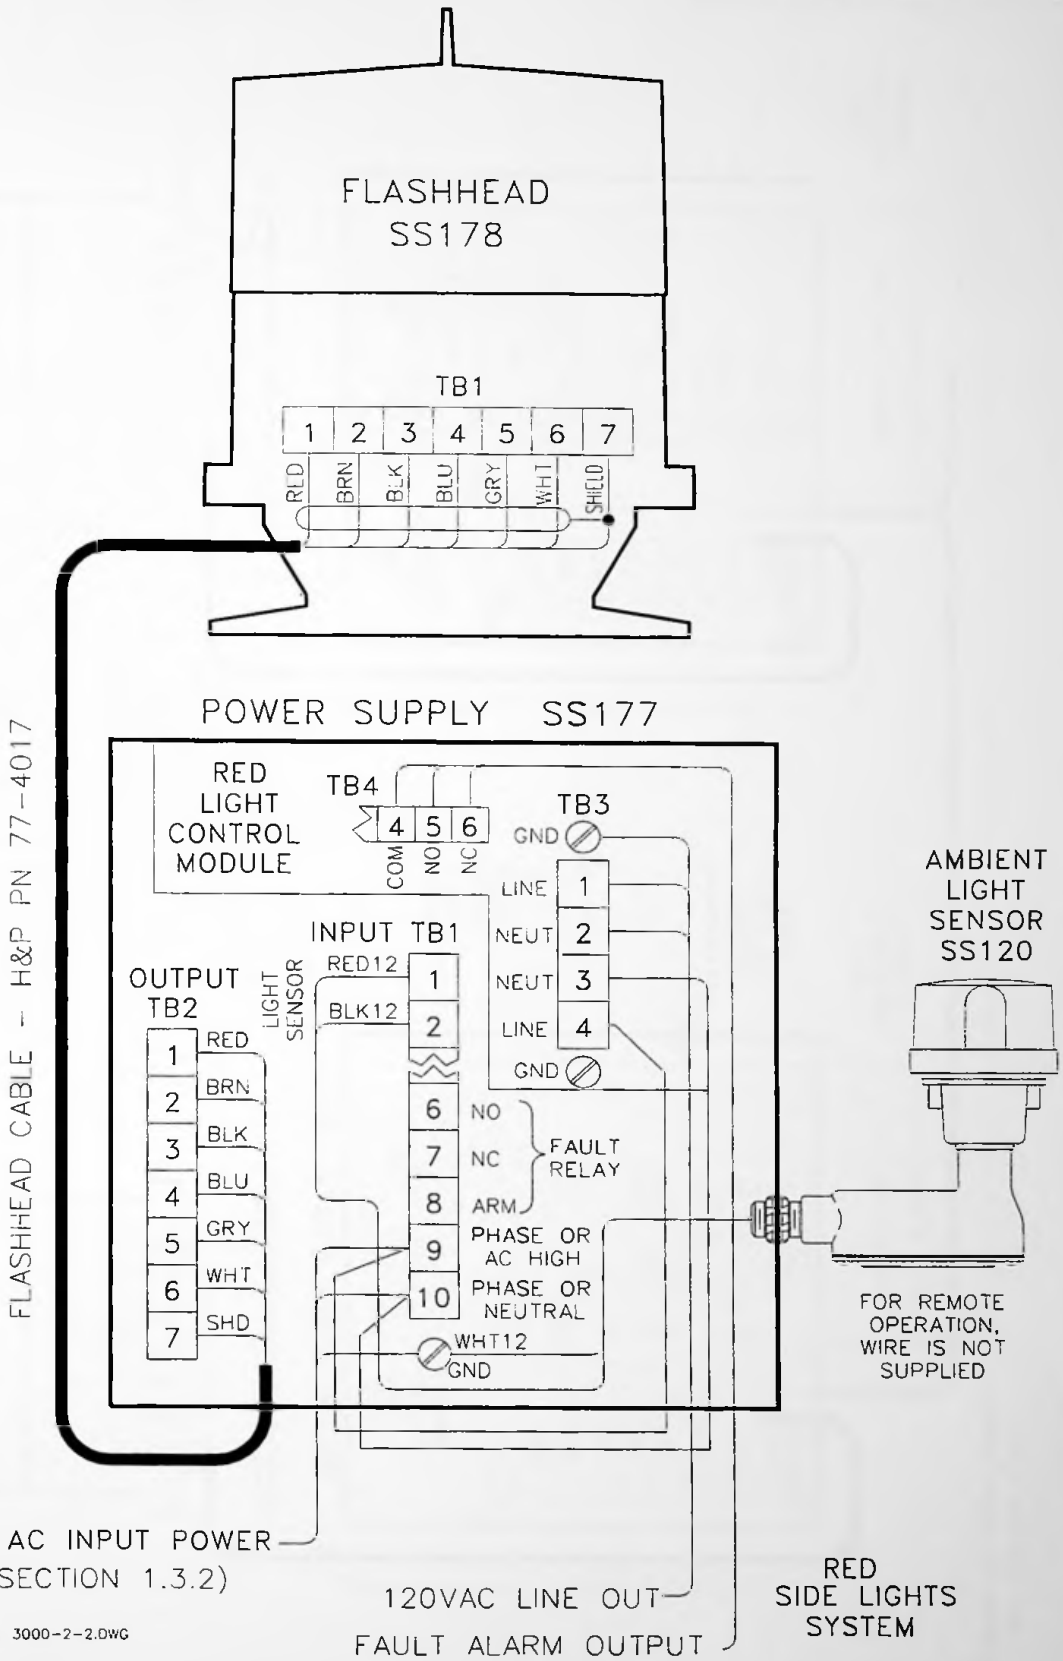

Figure 2-2. INSTALLATION WIRING FOR STAND-ALONE UNIT
**STEP1** - Make all the interconnects between the flashhead and the power supply using H&P supplied cable (77-4017). The wires in this cable are color coded and are connected to the numbered terminals of **TB1 in the flashhead** and the corresponding numbered terminals of **TB2 in the power supply** per *Figure 2-2(Page 13)*.
**STEP2** - Make the interconnects between the steady burning red side lights and power supply using the H&P supplied cable (WC01012CLOT or equivalent #12awg cord). The wires in this cable are connected to the numbered terminals of **TB3** *Figure 2-2* as follows:
**STEP3** - Make the interconnects between the external photocell and the power supply using # 12 AWG wire. The wires in this cable are connected to **TB1** per *Figure 2-2* as follows.
**STEP5** - Make the connections for Incoming Power to **TB1 in the Power Supply** per *Figure 2-2* as follows. The wires or cable needed are NOT supplied.